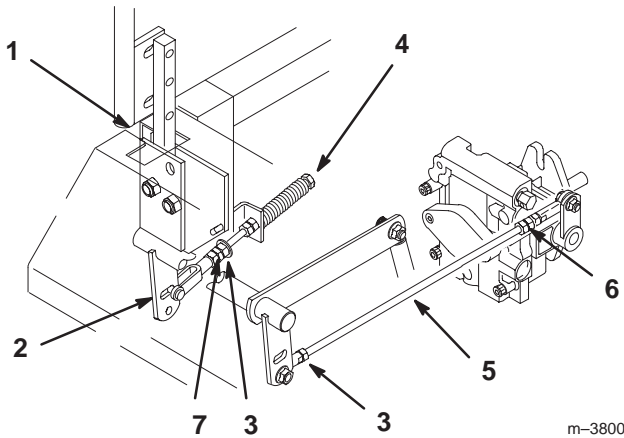

Figure 55
2. Begin with either the left or right motion control lever. Move lever to the neutral (but not locked) position and pull lever back until the clevis pin (on arm below pivot shaft) contacts the end of the slot (just beginning to put pressure on spring) (Fig. 55).
3. Check where lever is relative to notch in console (should be centered allowing lever to pivot outward to the neutral lock position) (Fig. 55).
4. Loosen locknut at ball joint on pump control rod (Fig. 55).
6. Adjust pump rod length by rotating double nuts on rod, in the appropriate direction, until wheel is still or slightly creeps in reverse (Fig. 55).